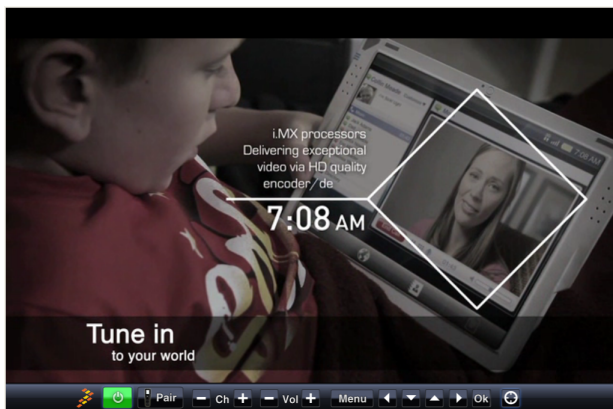

Figure 11. TV GUI Showing Video File
17. The 1323x-RCM is now ready to control the TV GUI. Press SW16 (Power Toggle On/Off) on the board to turn the simulated TV on. The TV starts on channel FSL 1 as shown in Figure 11 and runs a sample video file playback to simulate a TV broadcast.